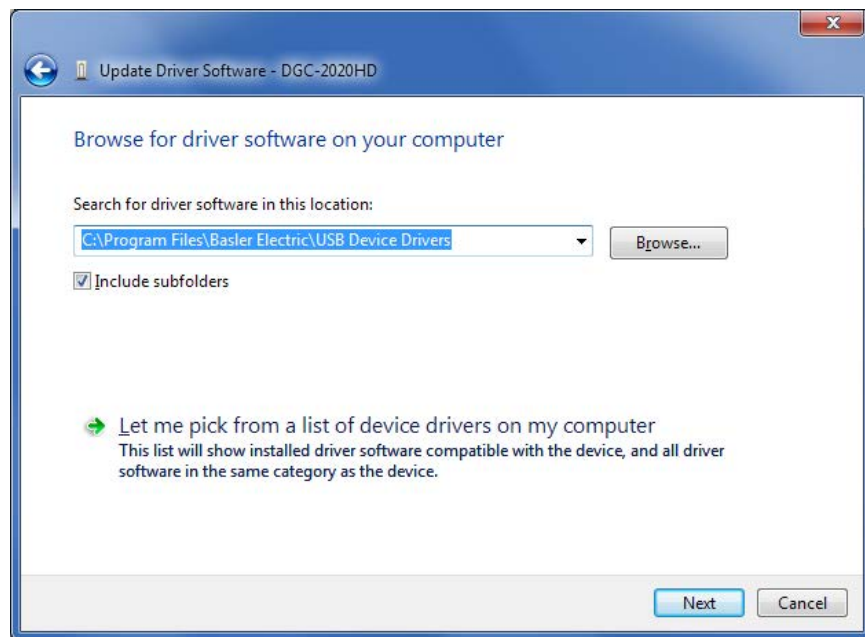

Figure 35. Update Driver Software - DGC-2020HD
Step 5. Click Browse and navigate to C:\Program Files\Basler Electric\USB Device Drivers\USBIO. Click Next. See Figure 35.